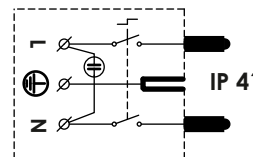

Fig. 8 Connection diagram for the VS1
**Warning! Mains plugs have a lower protection rating against water than the heating element. So it is not possible to operate this in an area closer than 600mm to a bath or shower (zone 2 according to ČSN 33 2000-7-701). For VS1 plug connection diagram see Fig. 8.**